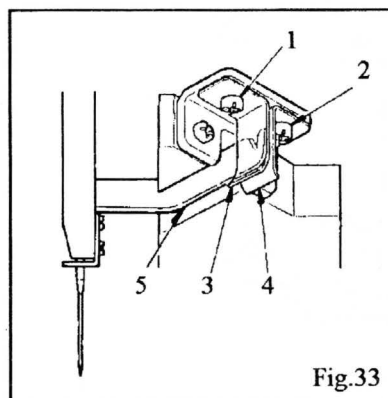

Fig.33
To adjust the holding strength of needle thread holder puller, loosen screws (1) and (2), Fig. 33, and adjust the pressure of the needle thread holder puller springs (3) and (4) against needle thread holder puller.